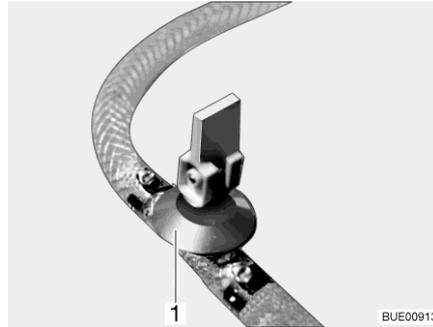
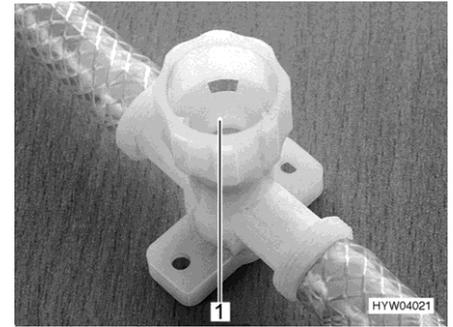

Fig. 261 Drain cock (with rocking lever)
Fig. 262 Drain cock (with twist cap)
- Close all drain cocks. To do this, position the drain cock's rocking lever (Fig. 261,1) horizontally or turn the drain cock's cap (Fig. 262,1) in a clockwise direction.